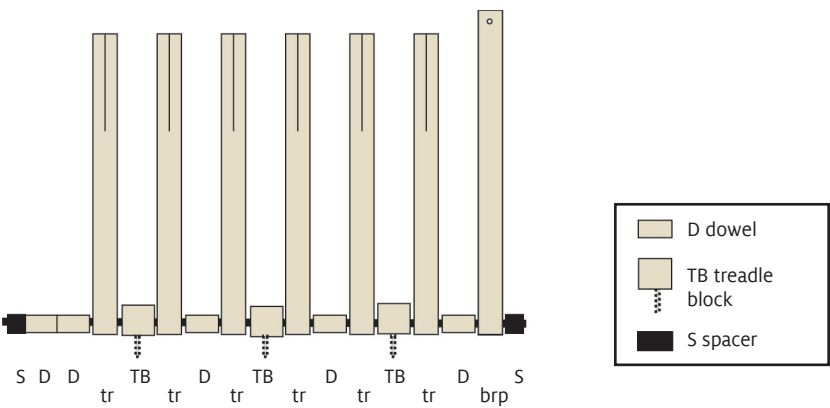

FIGURE 7: REPLACE TREADLES
- 13.** Following Figure 7, install height extender treadles (**tr**) and the height extender brake release pedal (**brp**), with the parts saved from step 12, onto the metal treadle bar.